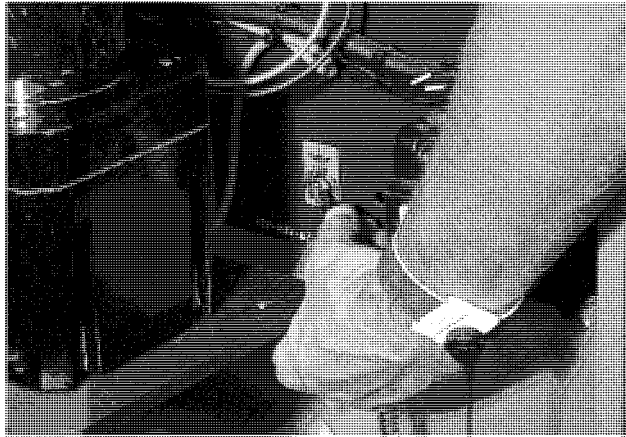
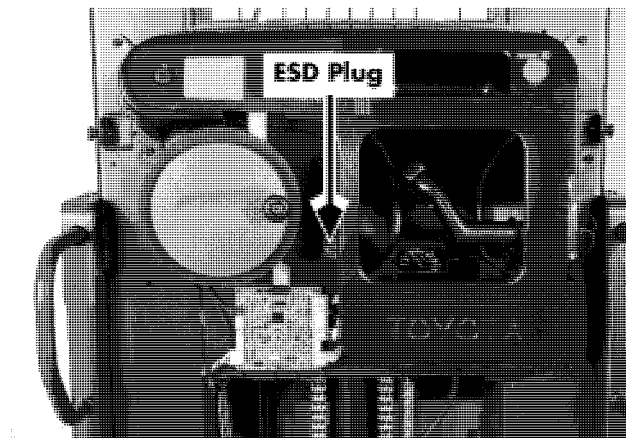

Figure 2-1. ESD Plug On Tractor
Figure 2-2. ESD Plug on Operator Console
2. Plug the ground cord into the ESD plug on the electrical assembly panel or the console panel. See Figure 2-1 and Figure 2-2.